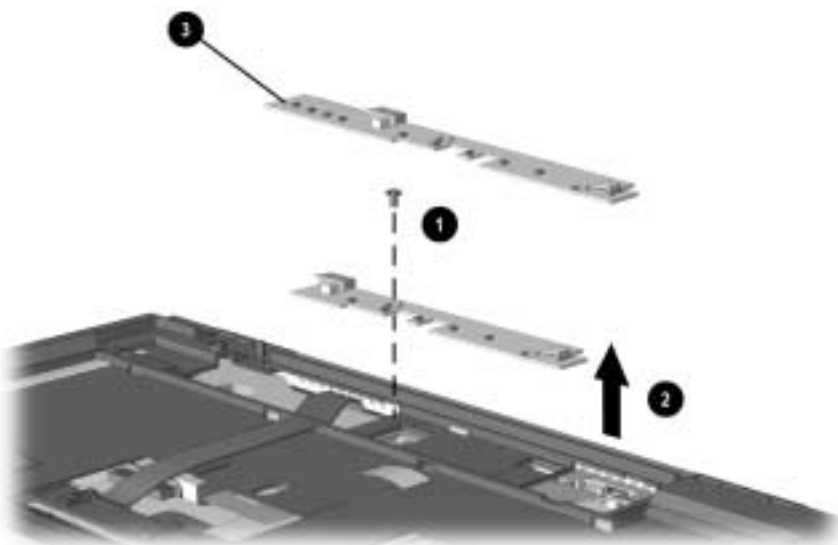

Figure 5-17. Removing the LED Board
4. Remove the screw **1** that secures the LED board to the system board (Figure 5-17).